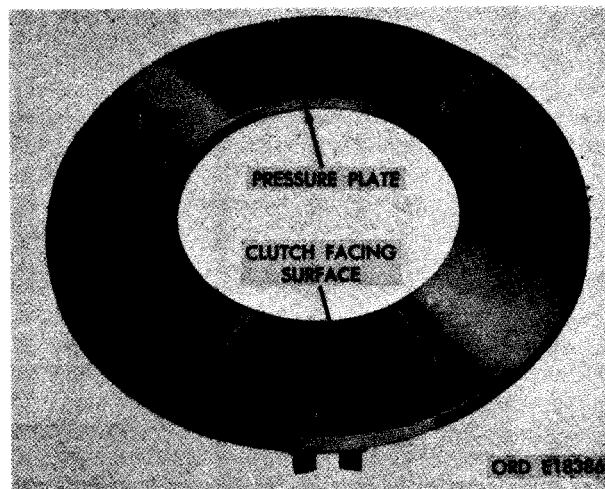

FIGURE 459. INSPECTING PRESSURE PLATE CLUTCH FACING SURFACE.
- (3) Pressure plate. Inspect pressure plate (B-1-c) for cracks and possible warpage, caused by severe heat due to clutch slippage. Inspect the clutch facing surface (fig. 459) for deep scores and rough surface. Replace pressure plate clutch facing surface as directed in paragraph; below, when scores are not deep and slight surface cracks are evident.